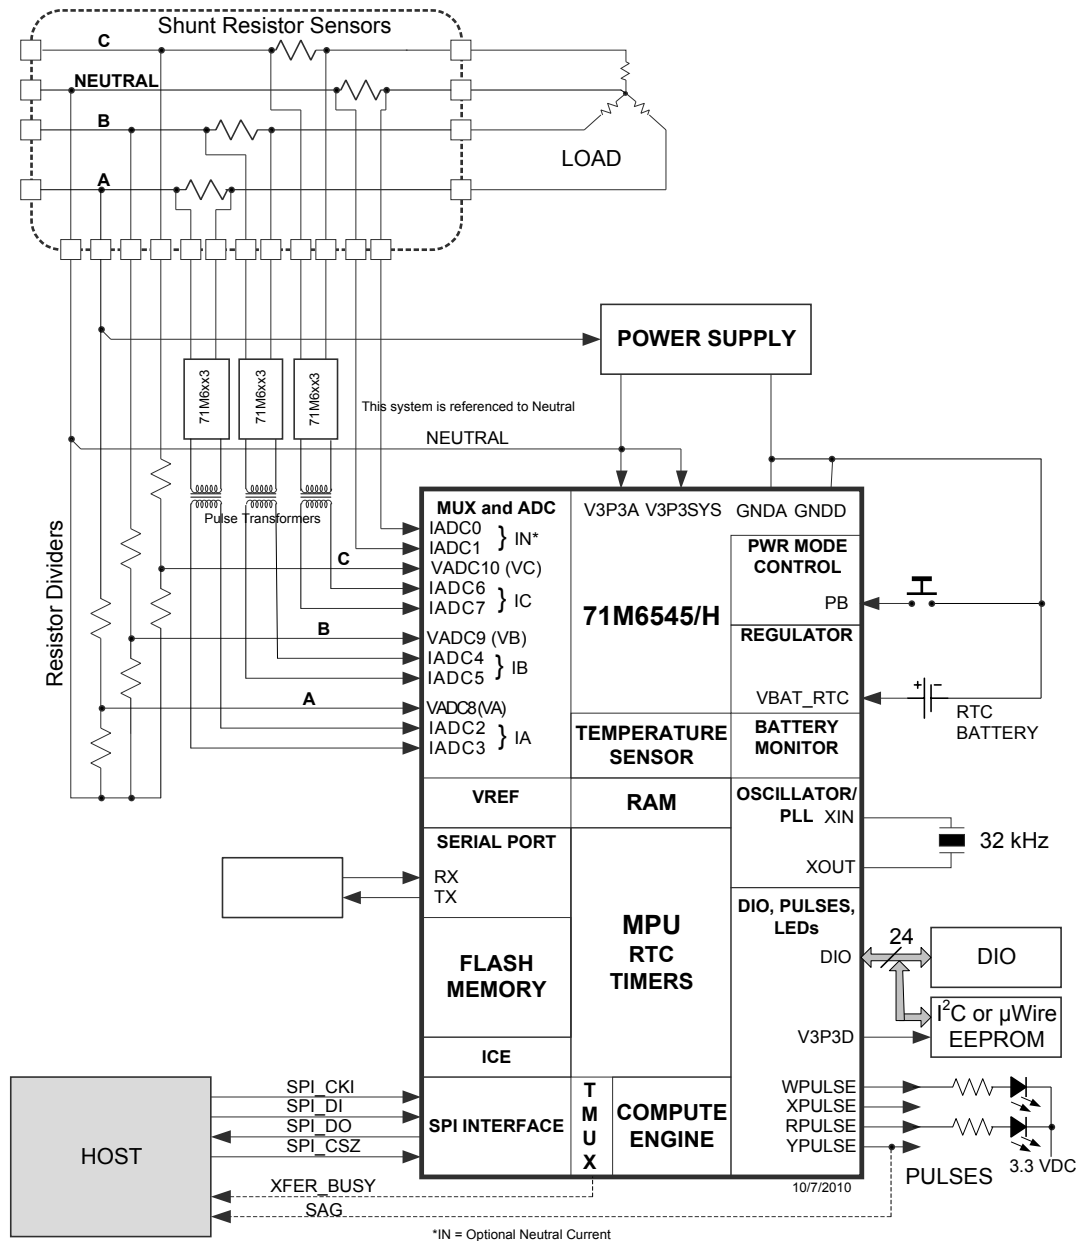

Figure 27: System Using Three-Remotes and One-Local (Neutral) Sensor
Figure 27 shows a typical connection for current shunt sensors; using the 71M6xx3 (poly-phase) isolated sensors. Note that one shunt current sensor is connected without isolation, which is the neutral current sensor in this example (connected to pins IADC0-IADC1). Each 71M6xx3 device is electrically isolated by a low-cost pulse transformer. The 71M6545/H current sensor inputs must be configured for remote sensor communications, as described in 2.2.8. Flexible remapping using the I/O RAM registers  $MUXn\_SEL[3:0]$  allows the sequence of analog input pins to be different from the standard configuration (a corresponding CE code must be used). See Figure 2 for the AFE configuration corresponding to Figure 27.
This section discusses metrology temperature compensation for the meter designs where current shunt sensors are used in conjunction with the 71M6xx3 remote isolated sensors, as shown in Figure 27.
Referring to Figure 27, the VADC8 (VA), VADC9 (VB) and VADC10 (VC) voltage sensors are always directly connected to the 71M6545/H. Thus, the precision of the voltage sensors is primarily affected by VREF in the 71M6545/H. The temperature coefficient of the resistors used to implement the voltage dividers
Table 57 shows the five  $GAIN\_ADJx$  equation output storage locations and the voltage or current sensor channels for which they compensate for the 1 Local / 3 Remote configuration shown in Figure 27.
**Table 57: GAIN\_ADJn Compensation Channels (Figure 2, Figure 27, Table 1)**